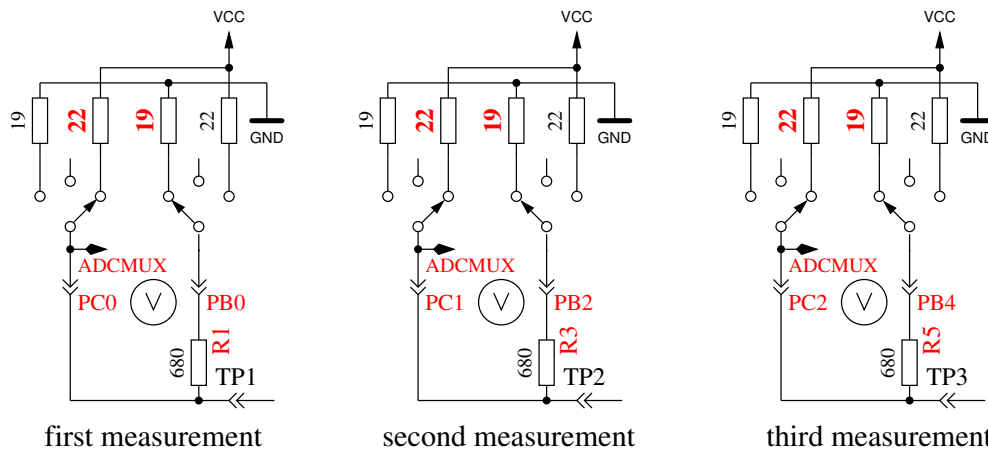

Figure 5.45: Measurement of internal resistance of Port C switched to VCC
8. **Measuring of internal resistance of port outputs switched to the VCC (+)signal.** The needed current is generated with to GND connected 680Ω resistors . It are the same measurements as those in test 7 to the other side as you can see in Figure 5.45. With the following steps the resistance is computed: To get the current, the following is computed: $(VCC - (resultoftest7) - (resultoftest8))/680$. To get both resistor values, the voltage (result of test 7 or 8) is divided by this current. The result for this test will then be notified in row 1 with the text "RI.Hi=", the resistance value (Ω) to the GND side is displayed in row 2 with the text "RI.Lo=". Both results will be written to the EEprom memory and will be used for further measurement.